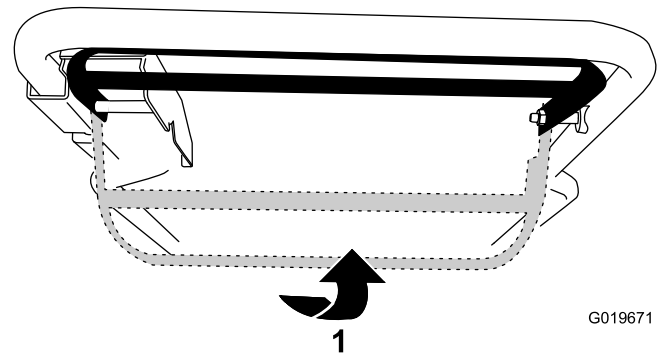

Figure 18
- To operate the self-propel drive without engaging the blades, raise the control bar to the handle (Figure 18).
- To operate the self-propel drive and engage the blades, slide the control bar all the way to the right and raise it to the handle (Figure 18).